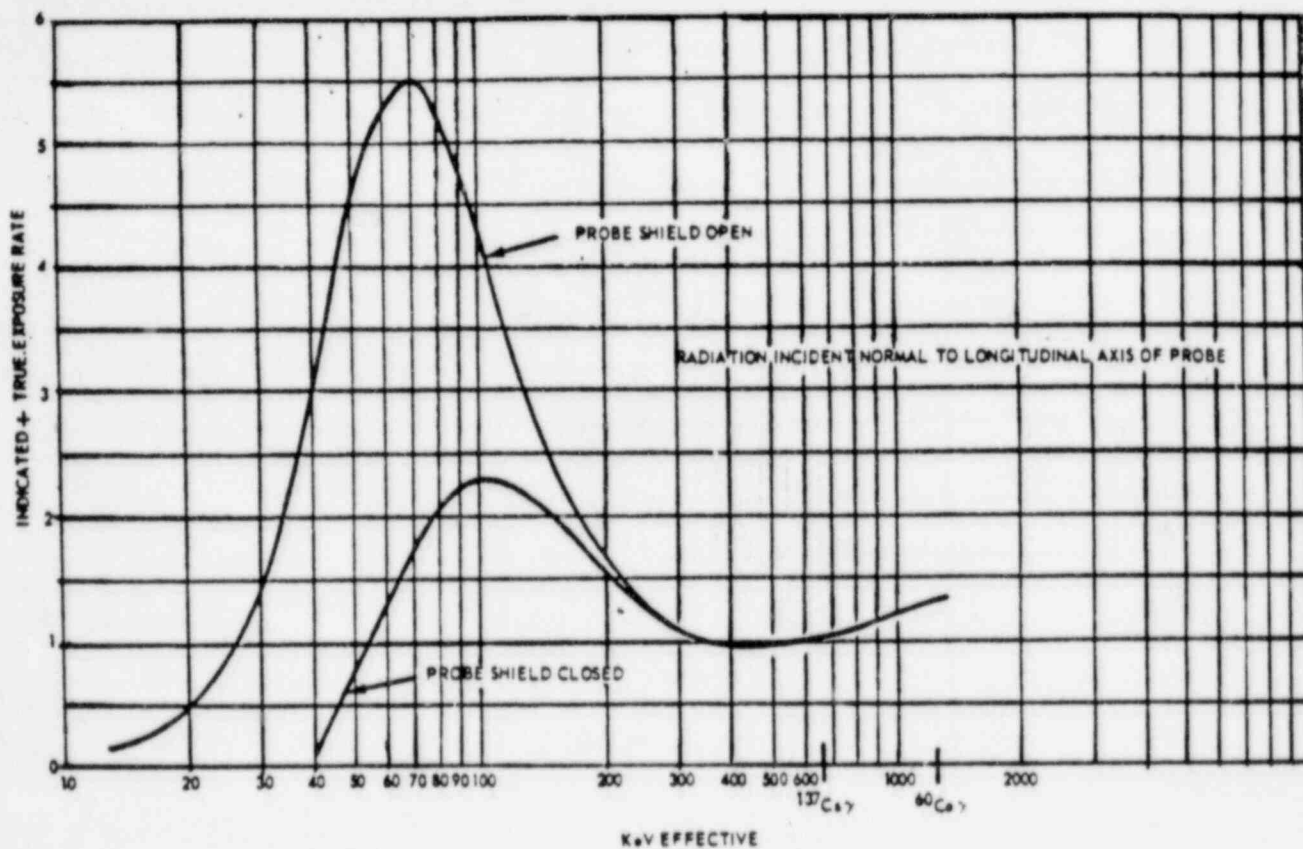

FIGURE 3. Energy Response, Model 491-40 Probe
2.2 Meter Readings - The meter scale is calibrated in milliroentgens per hour (mR/h) when used with the standard Model 491-40 probe on ¹³⁷Cs gammas, or if the probe being used is not the Model 491-40, appropriate standardization factors for the mR/h scale (not the c/m scale) are required. Energy response curves for the VICTOREEN GM detector probes are shown in section 2.6, Figures 3 through 6. Divide the meter reading by the ratio of indicated-to-true exposure rate (given in Figures 3 through 6) for the particular probe and energy to determine the true exposure rate.
The features of the four probes are shown in Table III. Figures 3 through 6 describe their energy response when used with the Model 493.